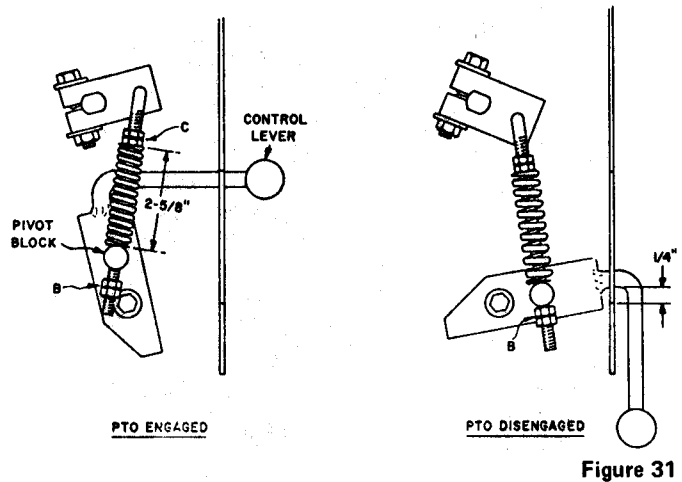
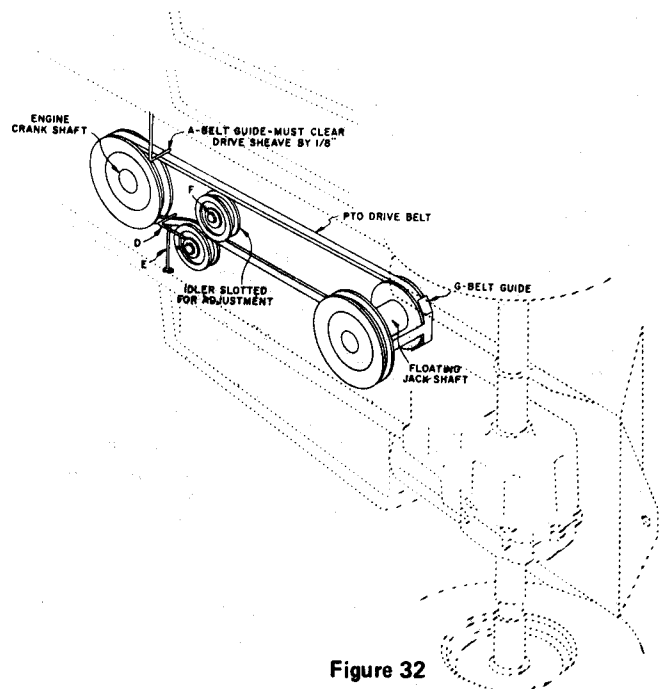

Figure 31
Figure 32
The PTO drive belt should be adjusted before the rear nuts B, Figure 31, contact the pivot block when the implement power clutch is engaged or if the belt begins to slip.
1. Engage implement power clutch and tighten nuts C, Figure 31, until the spring length is 2-5/8".
2. Position belt guides D and E, Figure 32, across from one another when the clutch is disengaged in such a manner that the belt is retained in the disengaged position. In addition, guide D must clear the engine sheave by 1/8" as the clutch is moved from the disengaged to the engaged position. Move guide D rearward if necessary to obtain this clearance.
3. With clutch disengaged, tighten nuts B, Figure 31, to obtain 1/4" clearance between the implement power clutch lever and rear of slot in the tractor frame.
If after adjustment, the rear nuts B, Figure 31, contact the pivot block when the clutch is engaged, loosen bolt F, Figure 32, and move the idler closer to the belt to provide additional adjustment. Repeat the complete adjustment sequence if it becomes necessary to move the idler.
PTO DRIVE BELT — Figure 32